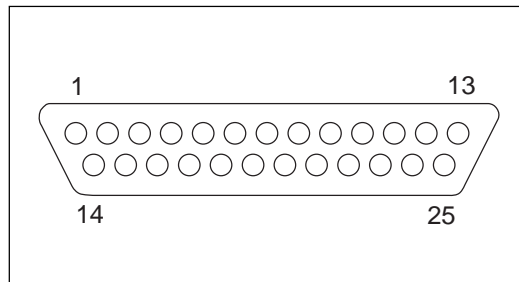

Figure 2. RS-232 & EIA530 Connector (ISO 2110), DTE Connector ♂ DB-25 Male, DCE Connector ♀ DB-25 Female
8. Figure 2 shows a RS-232 & EIA530 DB-25 Connector.